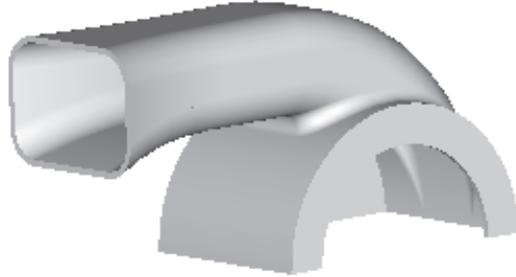

Figure 8-56 Model with cut feature
7. Choose **OK** from the **CUT** dialog box. The cut feature is shown in Figure 8-56.